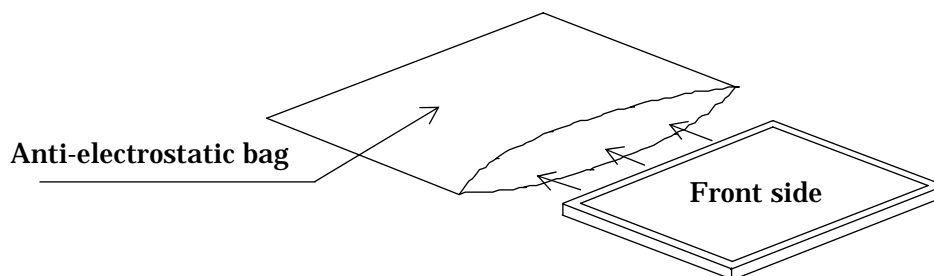

Fig. 17-1(a) Packaging method
(8) Return method of the LCD module requested for repair or analysis of the problem
- When returning the LCD modules, adhere to the following procedures not to damage the LCD panel or the backlight cables. (Fig. 17-1(a)~(b))